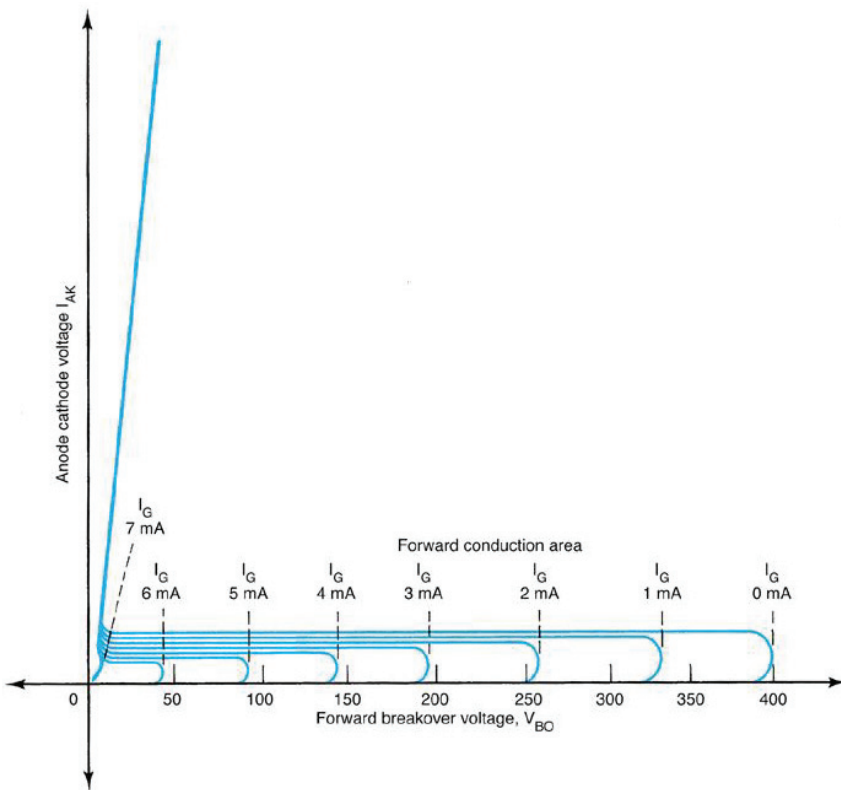

Figure 12.6 Gate-current characteristics of an SCR.
For an SCR to be used as a **power control** device, the forward V_{BO} must be altered. Changes in gate current cause a change in the V_{BO} . This occurs when the gate is forward biased. An increase in I_G causes a large reduction in the forward V_{BO} . An enlargement of quadrant I of the I – V characteristics is shown in **Figure 12.6**. This shows how different values of I_G change the V_{BO} . With zero I_G , it takes a V_{BO} of 400 V to produce **conduction**. An increase in I_G reduces this quite significantly. With 7 mA of I_G , the SCR conducts as a forward-biased silicon diode. Lesser values of I_G cause an increase in the V_{BO} needed to produce conduction.
Refer to **Figure 12.6**. With a gate current of 2 mA, what is the forward breakover voltage of the SCR?
Refer to **Figure 12.6**. Find the V_{BO} values for (1) $I_G = 6$ mA, (2) $I_G = 4$ mA (3) $I_G = 1$ mA, and (4) $I_G = 0$ mA.